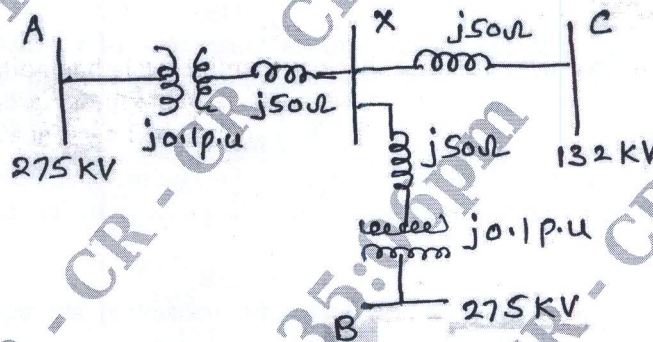

Fig.Q8(c)
- c. Three generating stations are connected to a common bus bar X, as shown in Fig.Q8(c). For a particular system load, the live voltage at the bus bar falls by 2 KV. Calculate the reactive power injection required to bring back the voltage to the original value. All p.u. values are on a 500 MVA base.